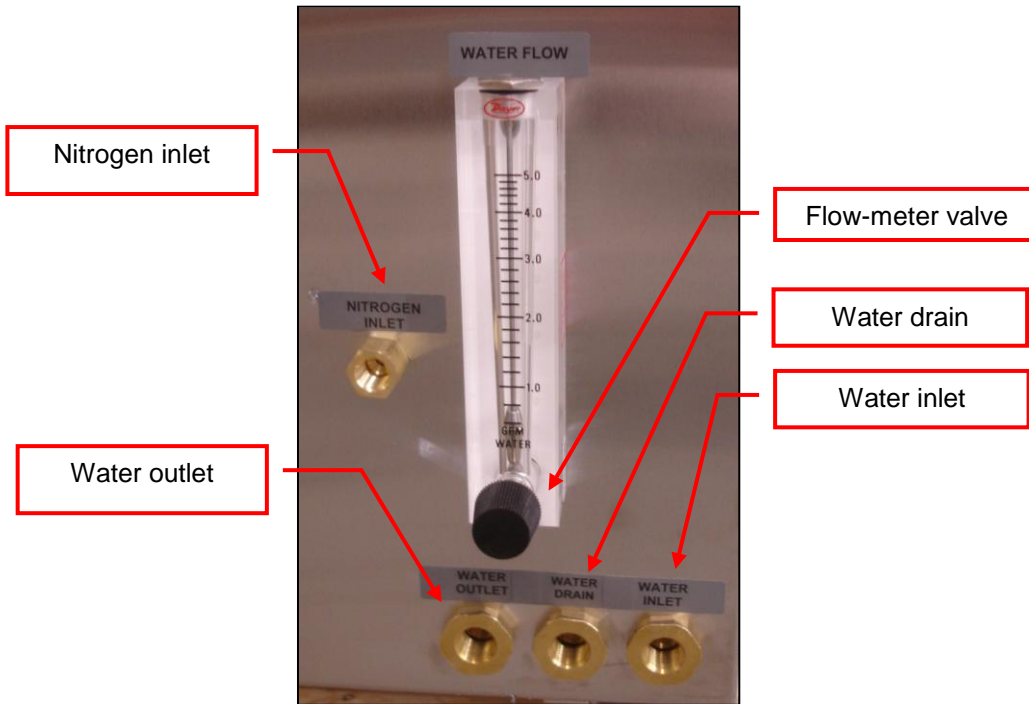

Figure 6. LCC/LCD Connections Panel.
Utility connections vary slightly on different LCC/LCD models. Table 3 lists the connection purposes and parameters. Refer to Figure 6 for visual reference.
1. Connect nitrogen supply line to **NITROGEN INLET** at the connections panel (Figure 6).
2. Install water connection for cooling coils to **WATER INLET** (Figure 6). Verify the valve on the flowmeter is turned OFF, that is, fully clockwise.
5. Complete the drain connection on oven side by connecting **WATER OUTLET** to the closed loop system (Figure 6).
<p>WATER DRAIN must be left open-to-atmosphere. Make closed-loop connections using WATER OUTLET (Figure 6).</p>
1. Connect Clean Dry Air (CDA) line to **DRY AIR 100 PSI** at the connections panel (Figure 6).